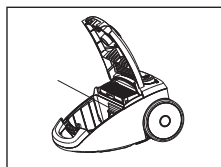

Fig. 16
2. Input filter (motor protection filter) is situated in the dust bag space. Insert new filter and make sure it is inserted properly and firmly (fig. 16).